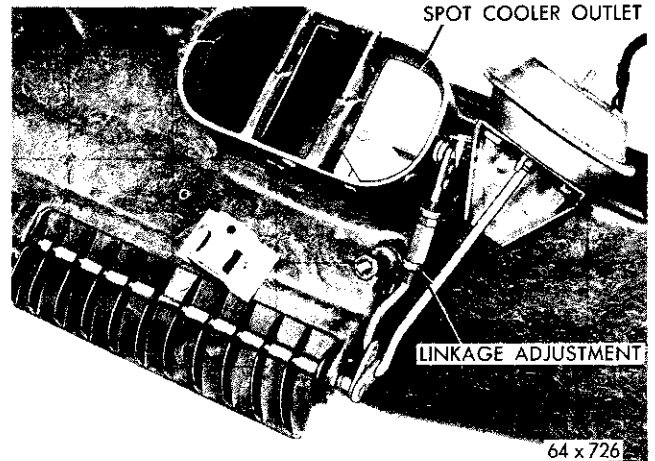

Fig. 50—Right Spot Cooler Outlet
- (1) Install the blower motor and mounting plate to the distribution duct. Be sure the blower wheel is free and does not rub.
- (2) Test the operation of right spot cooler outlet by applying vacuum to actuator away from the rod side. If the linkage is correct, the outlet door will be fully closed, and adjust the linkage as necessary (Fig. 50).
- (3) Position the housing on the dash panel, making sure the large mounting-plate-to-dash-panel gasket is properly positioned to insure a good seal. Install the three attaching screws.
- (4) Reposition the temperature control valve capillary in the engine-side housing.
- (5) Connect the vacuum actuator hoses and rods, and install all attaching clips.
- (6) Connect and adjust the distribution duct damper control cable.
- (7) Connect the blower and clutch circuit wires. Install the ground wire at the windshield wiper motor bracket.
- (8) Attach the windshield wiper motor pivot link (if disconnected). Connect the battery ground cable.
- (9) Test the operation of all controls and actuators.